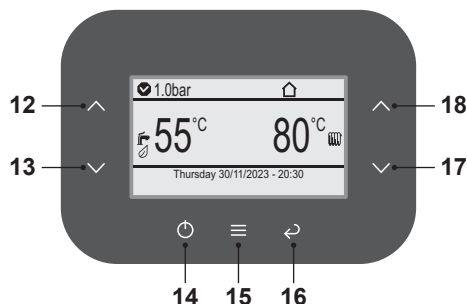
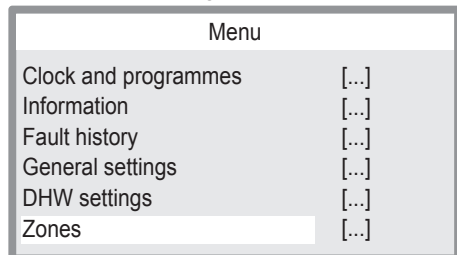
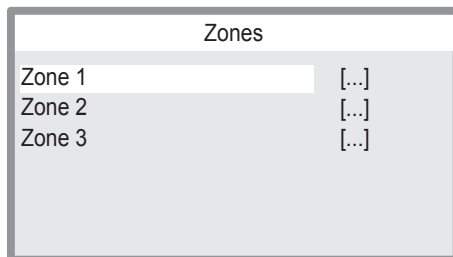
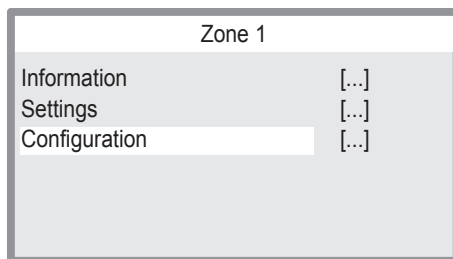

Fig. 8.14
Fig. 8.16
Fig. 8.17
Fig. 8.18
- Press key 15 (Fig. 8.14) to go to the main menu (Fig. 8.15).
- Press key 12 or 13 (Fig. 8.14) to select the desired menu (Fig. 8.16).
- Press key 15 (Fig. 8.14) to access the selected menu (Fig. 8.17).
- Press key 12 or 13 (Fig. 8.14) to select the desired menu from those available (Fig. 8.18).
- Press key 15 (Fig. 8.14) to access the selected menu.
- Press key 15 (Fig. 8.14) again to access the selected menu.
- Press key 12 or 13 (Fig. 8.14) to select the desired menu from those available (Fig. 8.20).
- Press key 15 (Fig. 8.14) again to highlight the value to be changed.
- Press key 15 (Fig. 8.14) to confirm the change or key 16 to exit without changing the value (return to previous level).
If the room temperature is not comfortable, increase or decrease the heating system delivery temperature by $\pm 15^{\circ}\text{C}$ using the 17 (decrease) and 18 (increase) keys (Fig. 8.14).